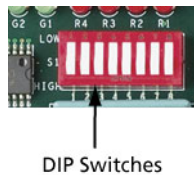

Figure 5-7. DIP Switches
5. Open and close the DIP switches. The changes appear in the **Controls** panel in the **Board Status** tab (Figure 5-7).